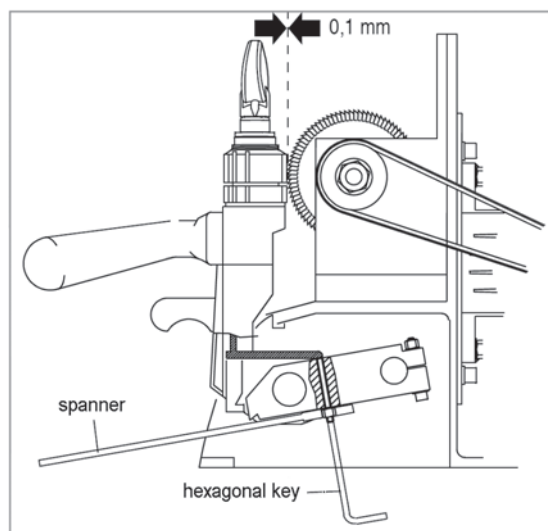

Fig. 44
- 1) Release the carriage, raise against the cutting tool and take to the end of its run (Fig. 44).
- 3) Release the nut with the spanner (Fig. 44)